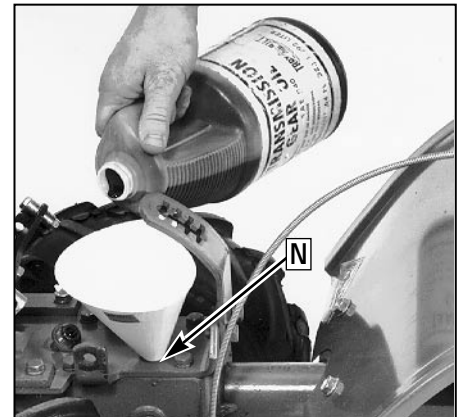

Figure 2-12: Adding gear oil.
- Clean area around the fill hole (N, Figure 2-12) and unscrew gear oil fill plug.
- Using a clean funnel, slowly add gear oil until it flows from the gear oil level check hole (N, Figure 2-12).